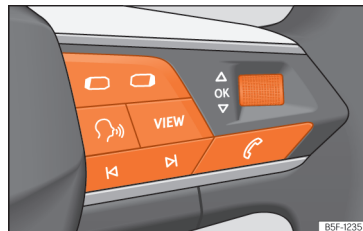

Fig. 75 Right side of the multifunction steering wheel: buttons to the menus and information displays on the instrument panel.
menu. Some warnings can be confirmed and hidden with the button **OK** of the multifunction steering wheel »» Fig. 75.
- If a message or vehicle symbol is displayed, press the button **OK** »» Fig. 75; if necessary, several times.
- To change menus, use buttons  or  »» Fig. 75.
- To open the menu or the information displayed, press the button **OK** »» Fig. 75 or wait a few seconds until the menu or the informative display opens automatically.
- In the menu displayed, turn the right thumb-wheel of the multifunction steering wheel »» Fig. 75 until the desired option of the menu is highlighted. The option appears framed.
- Press the button **OK** »» Fig. 75 to make the required modifications. A mark indicates that the system or function is activated.